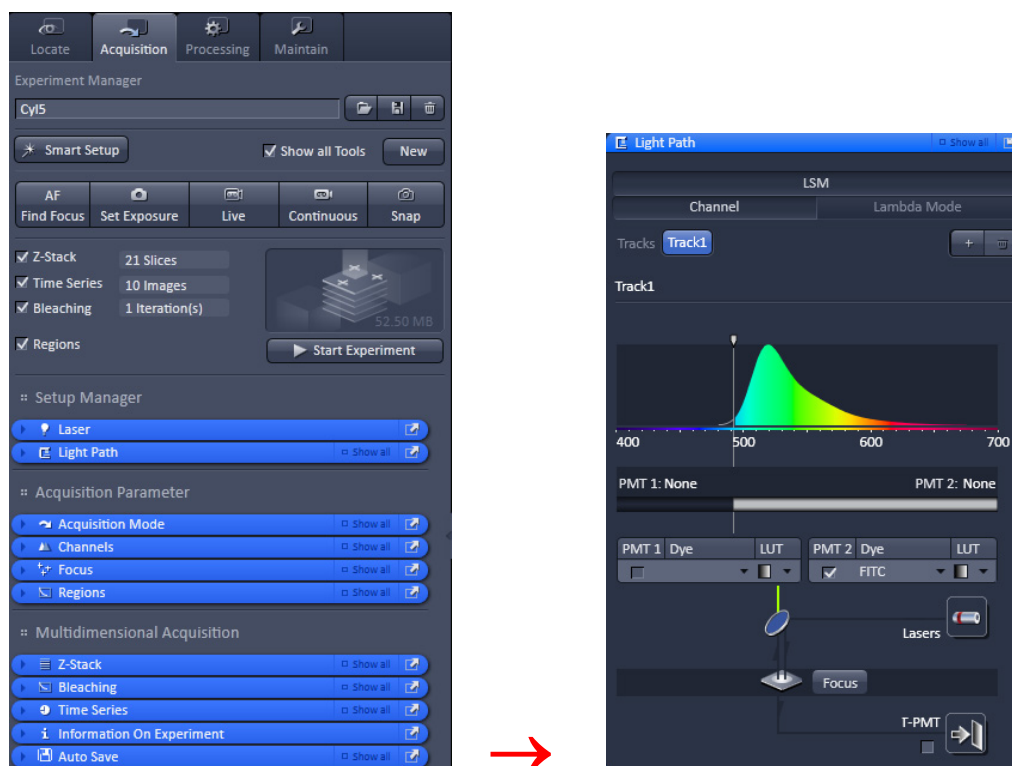

Fig. 16 Light Path tool for a single track (LSM 700)
The open **Light Path** is shown in Fig. 16.
- Select **Channel** mode if necessary (Fig. 16).
- Click on the **LSM** button in the light path tool (Fig. 16).